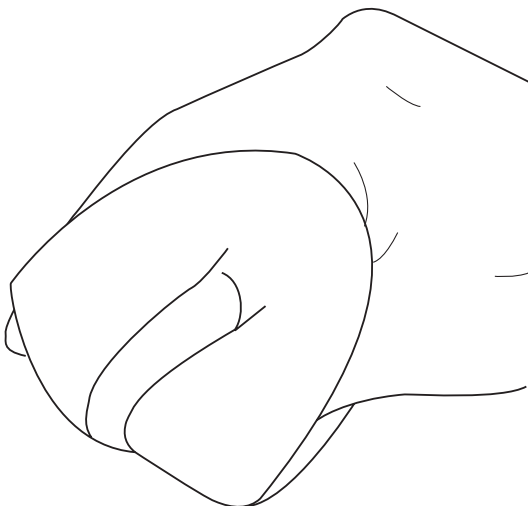

Figure 34
11. Squeeze the filters to remove any excess oil (see Figure 34).